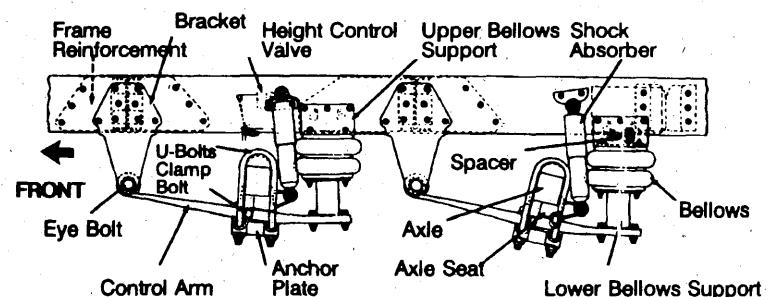

Figure 2-4
- Leaking shock absorbers (Figure 2-4).
- Air suspension systems that are damaged and/or leaking (Figure 2-4).